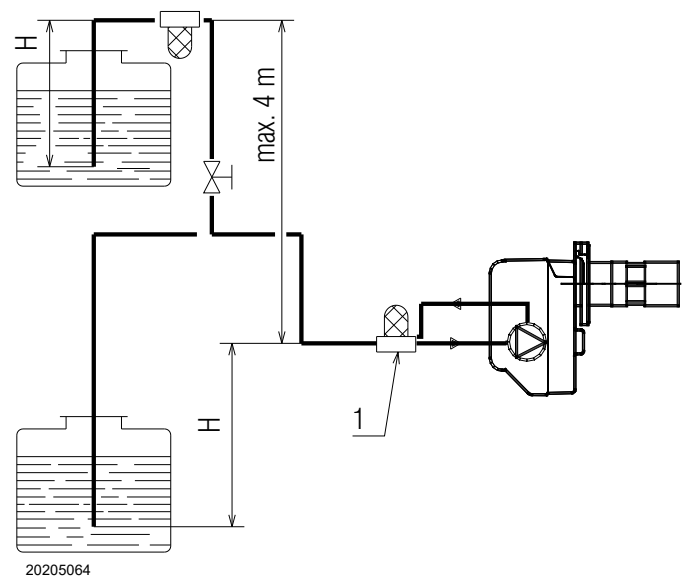

Fig. 21
For use with fuels having more than 30% of biocomponent (FAME), in order to avoid over-oxygenation of the biodiesel, the manufacturer advises against two-pipe operation; if two-pipe operation is to be maintained, a degassing filter (1) should be used (Fig. 21).